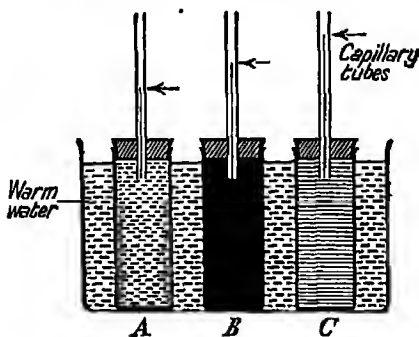

FIG. 219. The expansion of liquids on heating.
**Expt. 262.** Arrange three specimen tubes of equal volume and fitted with the same kind of tube as shown in Fig. 219. Fill *A* with water, *B* with mercury, and *C* with alcohol. Arrange that the heights of all three are the same at the temperature of the room. Put the three together in the same bath of warm water, and leave until